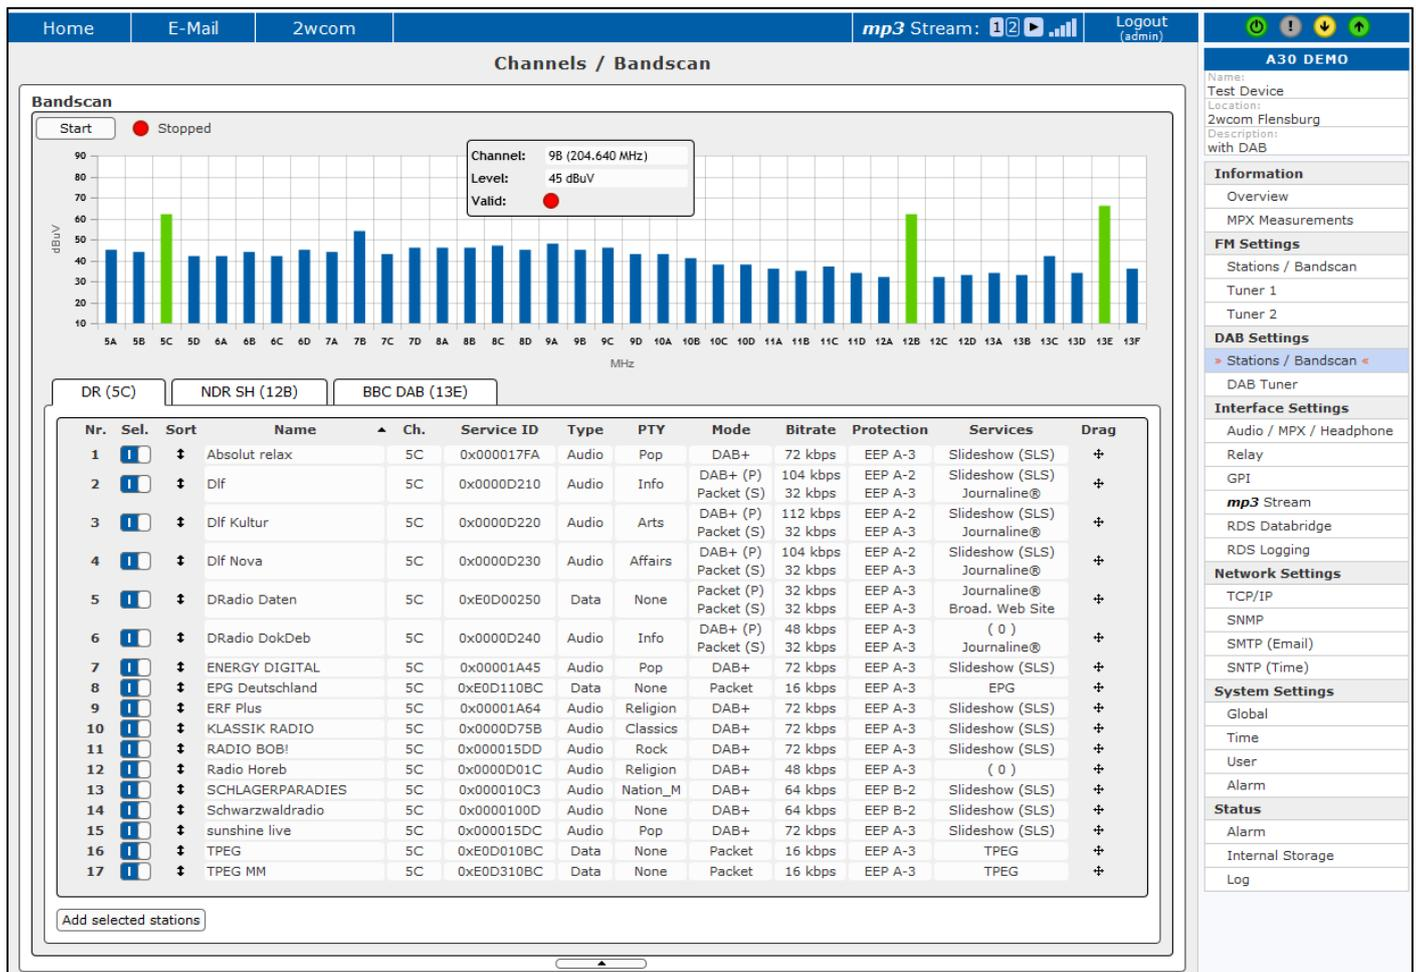

Fig. 17: "Bandscan" – Search of the available DAB channels
- ⇒ Available channels will be shown in the diagram below the "Start" button (see Fig. 17).